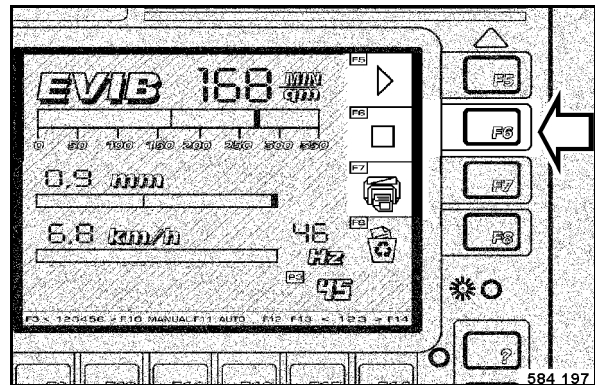

Fig. 100
- Drive forward and reverse passes on a track until the green control field to the left of F5 (Fig. 100) goes out and the red control field F6 below lights up after pressing the stop button F6.